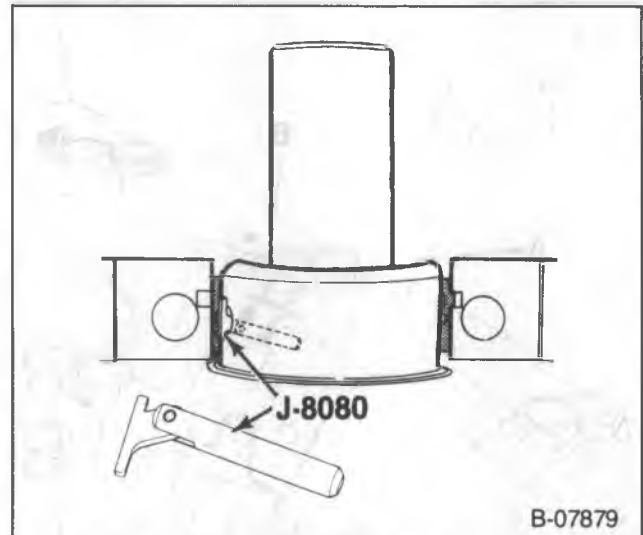

Figure 13—Removing the Main Bearing Insert
- Insert J 8080 into the crankshaft oil hole (figure 13).